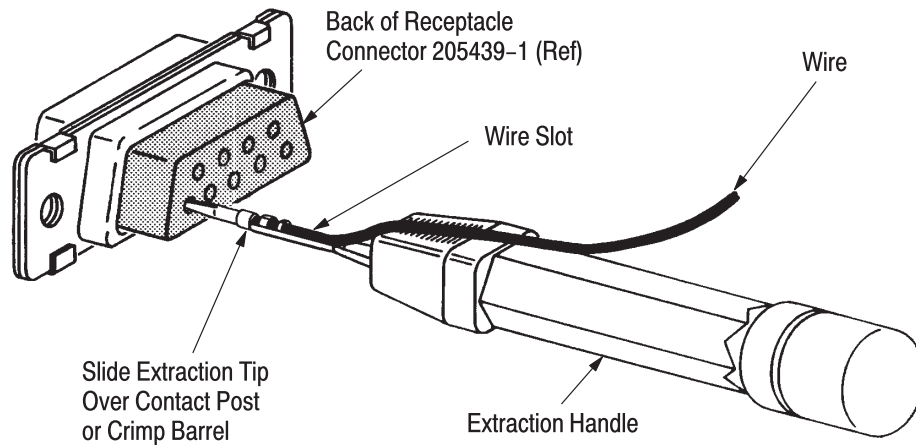

Figure 4
**4.2. Extracting A Wire Crimped Contact** (Figure 4)